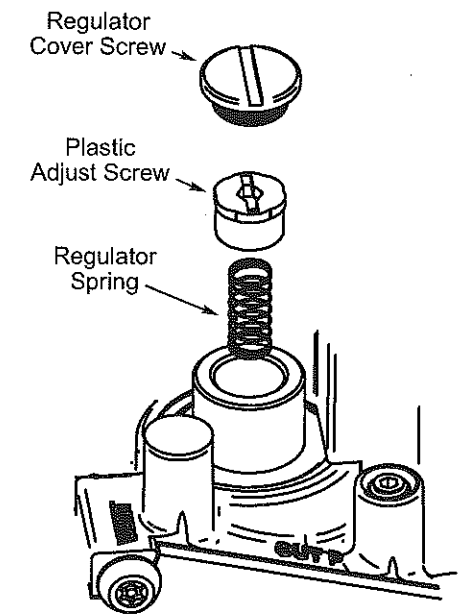

Figure 5
5. Remove regulator cover screw and turn regulator adjust screw **clockwise** (↻) to increase pressure, or **counterclockwise** (↺) to decrease pressure (see fig. 5). Always adjust regulator to provide the correct pressure according to the original equipment manufacturer's specifications listed on the appliance rating plate. Replace regulator cover screw and tighten securely.